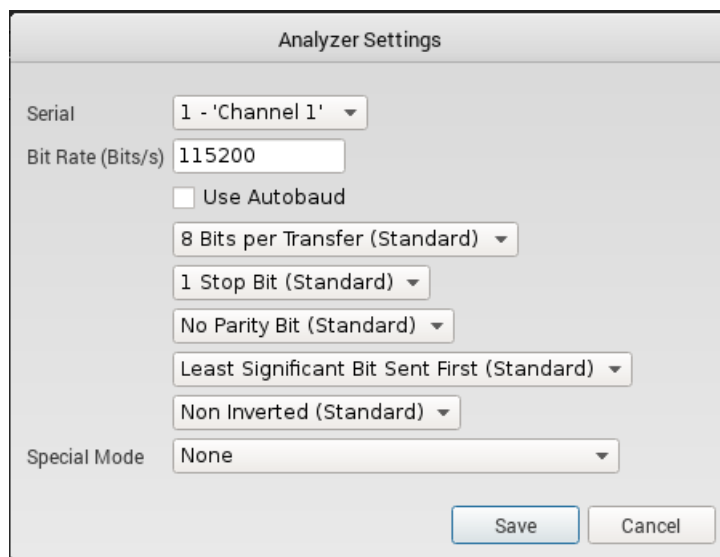

Figure 6.3: Analyser Settings - note that the baud rates are free-form text.
**Run the Analyzer** Now we are ready to analyse the signal we have. On the right of the main screen in Logic you will see a small box for 'analyzers'. Click the cog icon, and you will see the analyser setting screen, as per Figure 6.3. This will then allow you to load an analysis of the signal for different baud rates and settings. Nominally, all UART systems in the wild that you will encounter will tend to use 8N1 as the data settings (see the UART protocol description for more details about that). As such, our only task is to work out what the baud rate is.